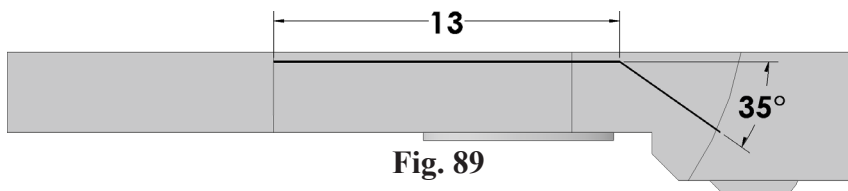

Fig. 89
Step 10. Add dimensions, **Fig. 89**.